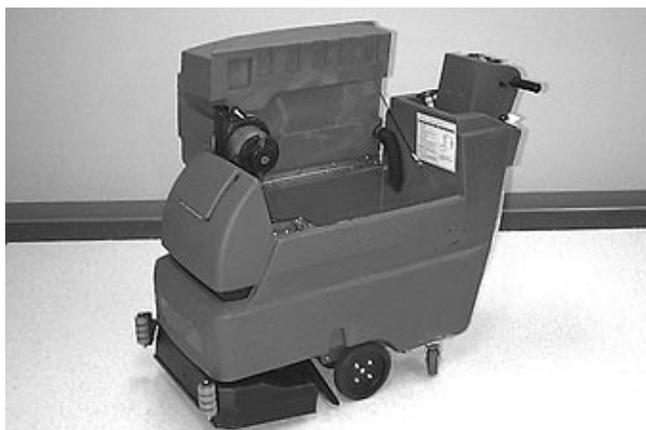

FIG. 1
2. Carefully hinge open recovery tank to access battery compartment. Remove loose battery cable from compartment (Figure 1).